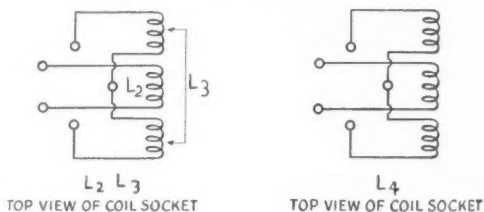

Fig. 2 — Coil connections and data.
- L_6 — 18 turns No. 30 d.s.c., close-wound, on same form as L_5 ; see Fig. 2.
Reasonable care in following the diagram should ensure the receiver's working immediately when it is finished. The method of winding coils is indicated in Fig. 2; if the connections to the circuit are made
All coils wound on $1\frac{1}{2}$ -inch diameter forms (Hammarlund SWF-4). Grid windings on coils B-E, inc., spaced to occupy a length of $1\frac{1}{2}$ inches; grid winding on coil A close-wound. Antenna-tickler coils all close-wound, spaced $\frac{1}{4}$ inch from bottom of grid winding. See Fig. 2.
Fig. 2 — How the coils for the two-tube super are wound. The bottom end of the i.f. coil in this drawing is the end mounted to the chassis. L_5 and L_6 are wound in the same direction.
(See Fig. 2 for specifications of L_2 and L_3 .)